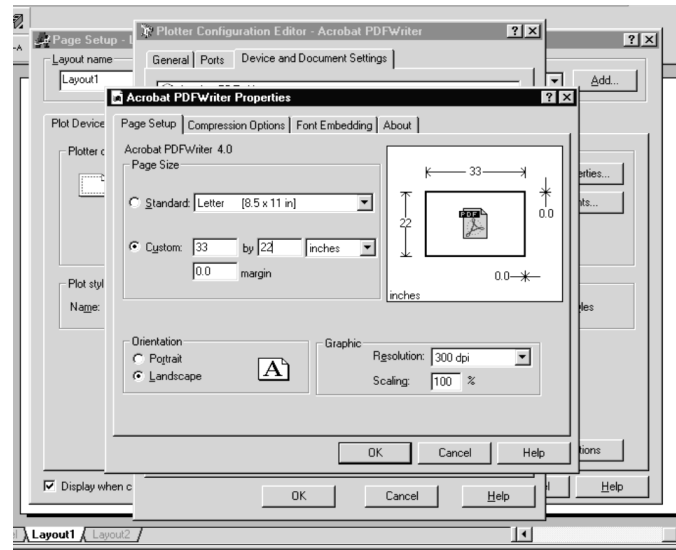

Figure 2.17
- From the Acrobat PDFWriter Properties window (Figure 2.17), select *Custom Page Size*